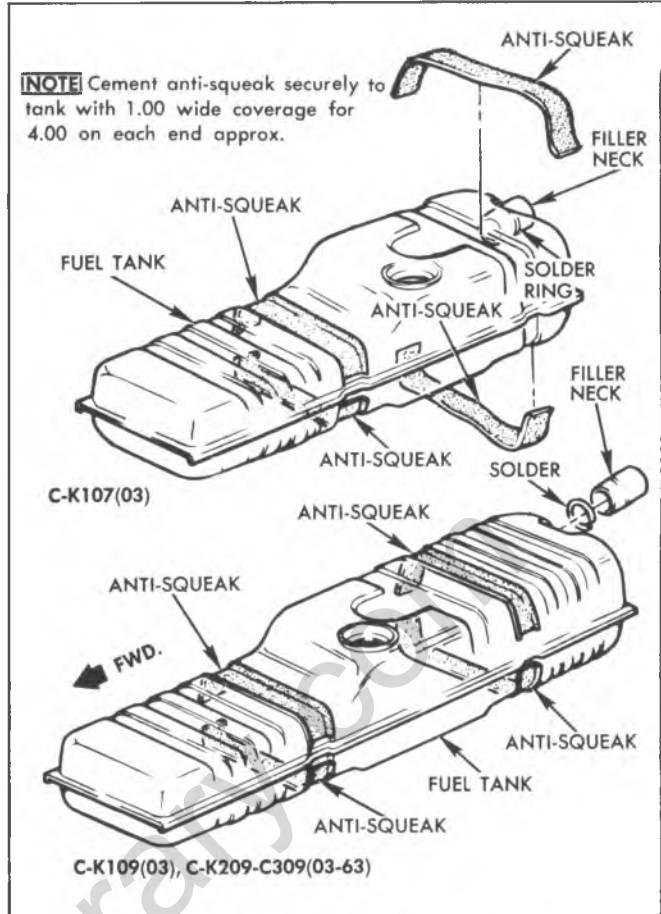

Fig. 6C5-7--Fuel Tank-Cab and Crewcab
7. Remove meter assembly from fuel tank using Tool J-24187 (Fig. 6C5-10).